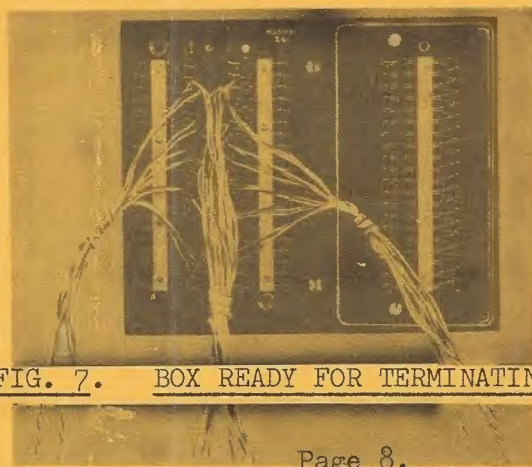

FIG. 7. BOX READY FOR TERMINATING.
- (a) After fanning the outgoing cable tie the skimmers, using the shortest twisted pairs, into two groups relative to each terminal strip. (See Fig. 7.)
- (b) After fanning the incoming cable tie the skimmers, using the shortest twisted pairs, into one group between the outgoing groups. (See Fig. 7.)